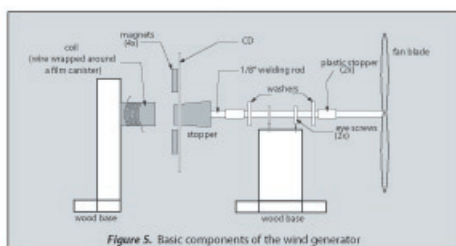

Figure 5. Basic components of the wind generator
3. Slide the rod through the two screw eyes and then put another washer and $\frac{1}{4}$ " of the plastic tubing on the rod (see Figure 5).
7. Build a mount similar to the one illustrated in Figure 5 for the coil. This mount will hold the coil side of the generator. Make the coil mount $2\frac{1}{2}$ " taller than the generator mount. You also need to make certain that the mount allows for the coils to be removed during the experiment outlined in Step #10 on the following page.